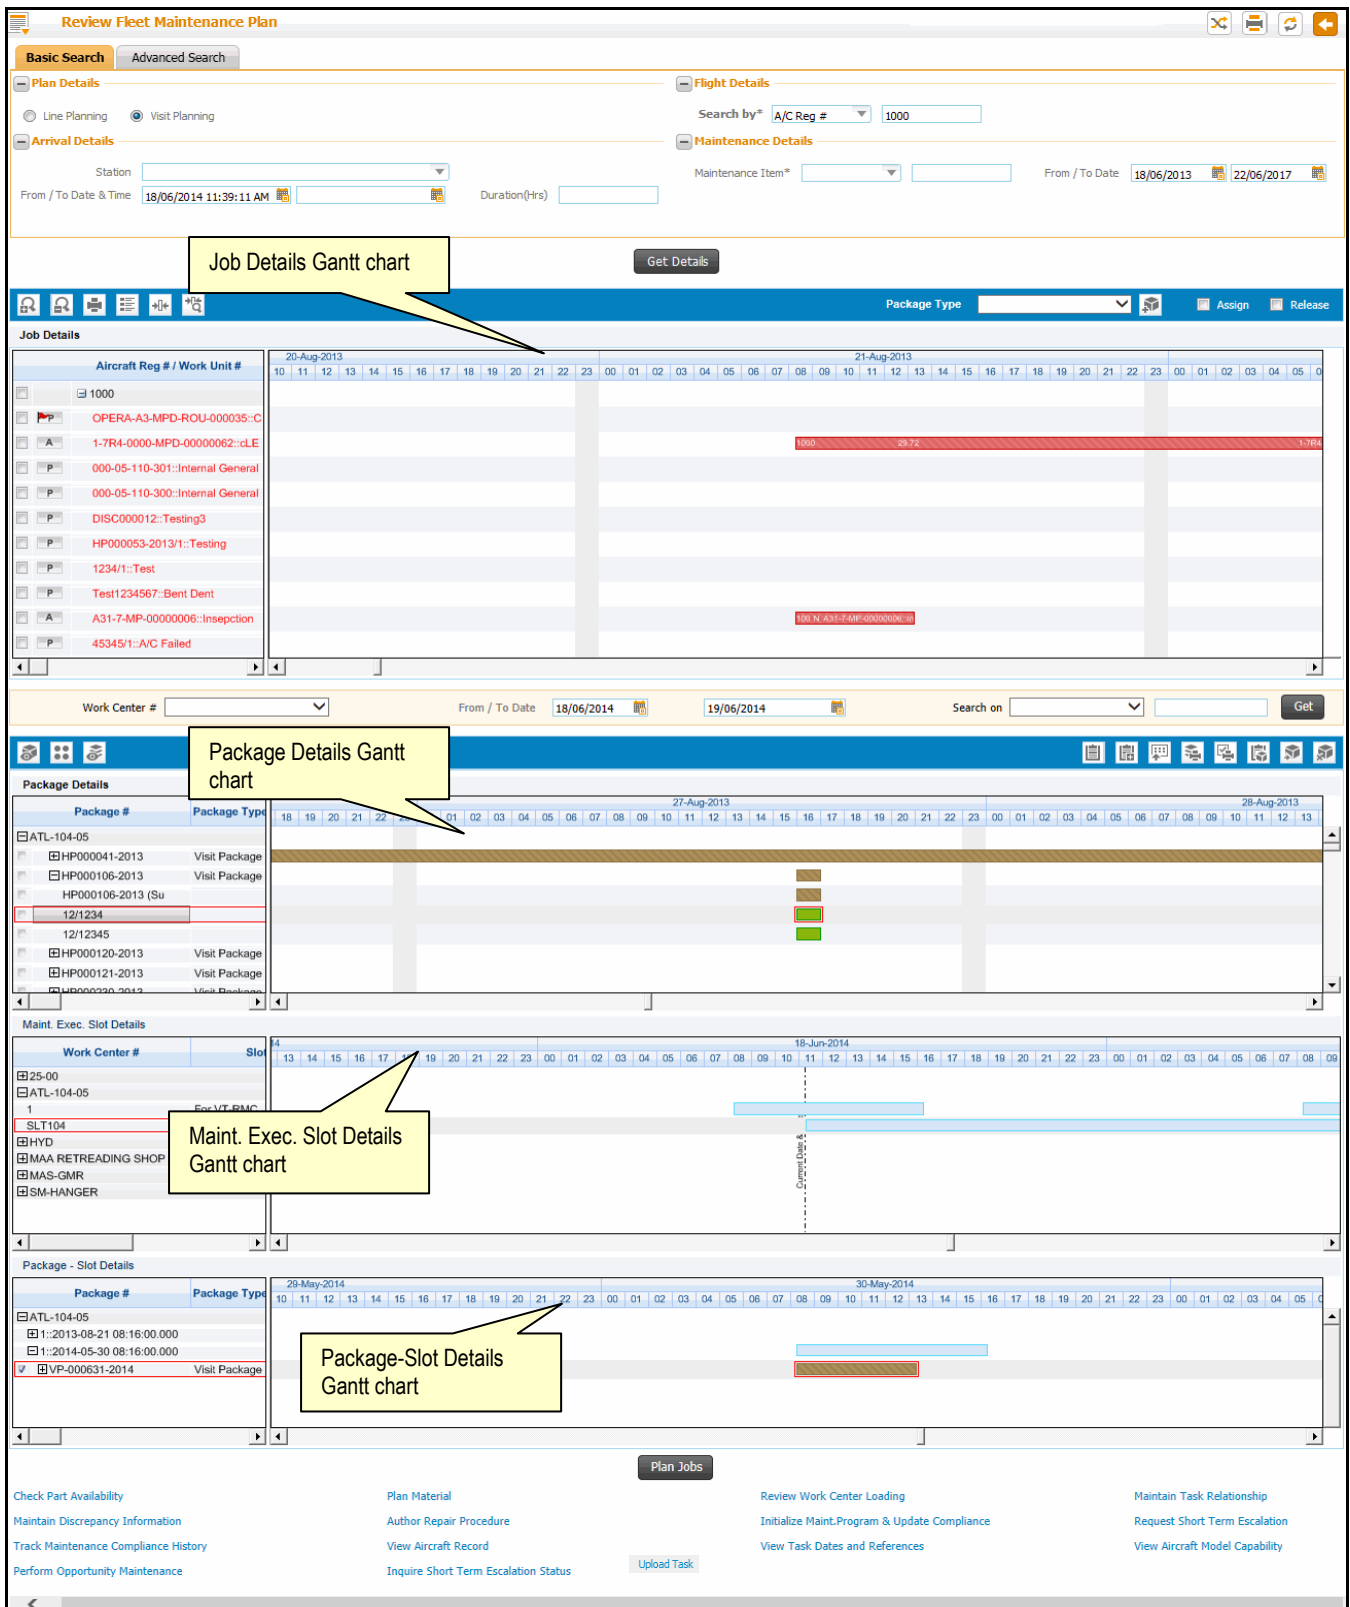

Figure 2.10 Reviewing Fleet Maintenance
1. Select the Plan Aircraft Maintenance link under the Aircraft Maintenance Planning business component. The Review Fleet Maintenance Plan page appears. *See Figure 2.10.*